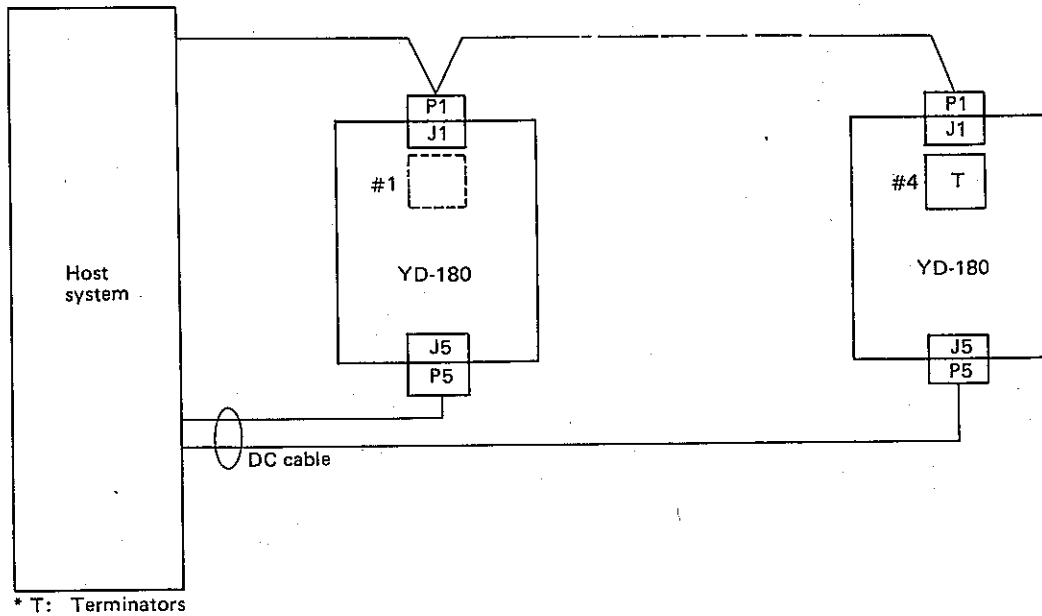

Fig. 5.1 Interface Connection
The interface between YD-180 and the host system is via two (2) connectors: signal (P1/J1) and DC power (P5/J5). Refer to Fig. 5.1 for the interface connection.
All signal inputs are terminated in a switch terminator (150 Ohm resistor pack). The switches are in ON position with all terminators connected when the drive is shipped. Before use, make sure that all the drives in the chain are turned OFF except for the last drive, which should remain ON. Refer to Fig. 5.1.